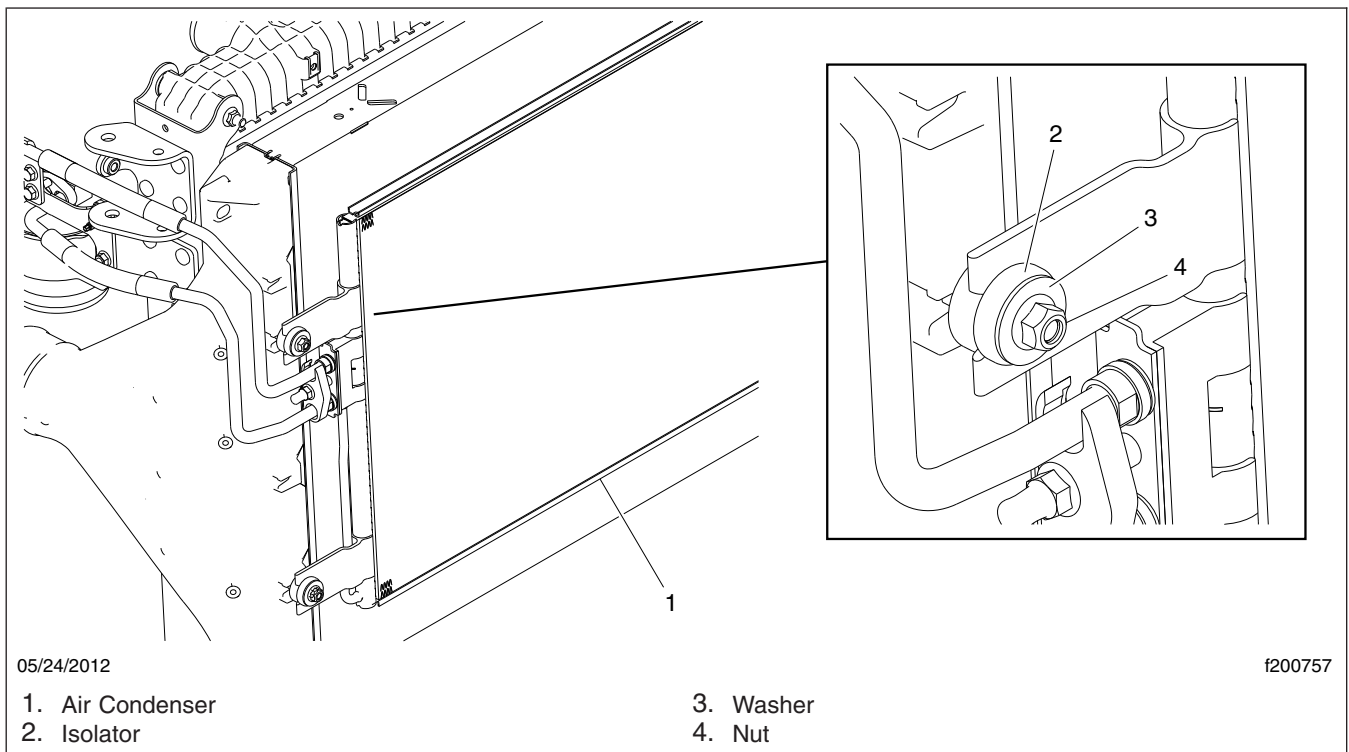

Fig. 9, A/C Condenser
16.2 Unbolt the A/C condenser from the CAC. See Fig. 9.
- 4.1 Move the condenser into position and secure it temporarily. See Fig. 9.